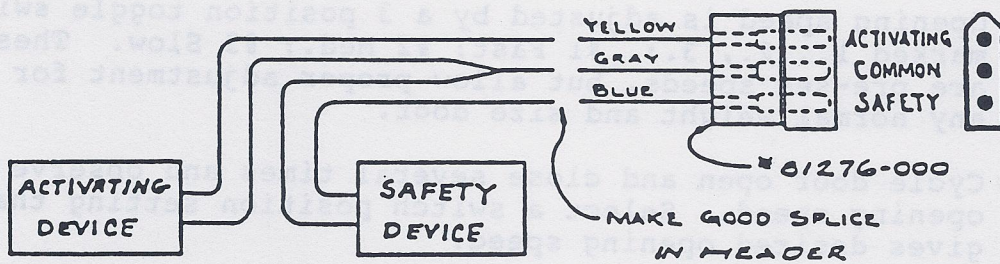

Fig. 5
6. Connect all activation and safety devices to the (yellow, blue & gray) wires only. (See Fig. 5)